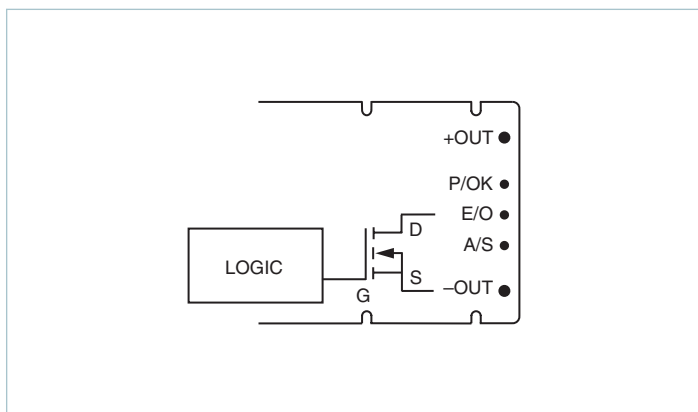

Figure 10.8 — Enable Output (E/O)
**Enable Output (E/O) Pin:** The Enable Output (E/O) is used to inhibit the DC-DC converters at start up until the hold up capacitors are charged, at which time Enable is asserted high (open state, Figure 10.8). If the AC line fails, E/O goes low when the DC output of the HAM drops below 250VDC.